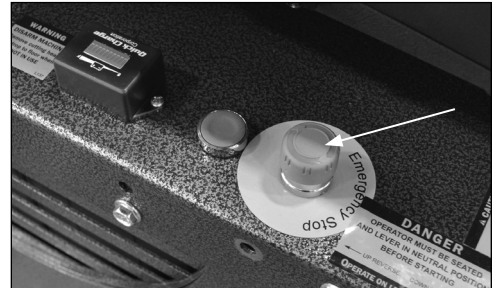

FIG. 1.1
4. Release emergency stop button (Figure 1.1).